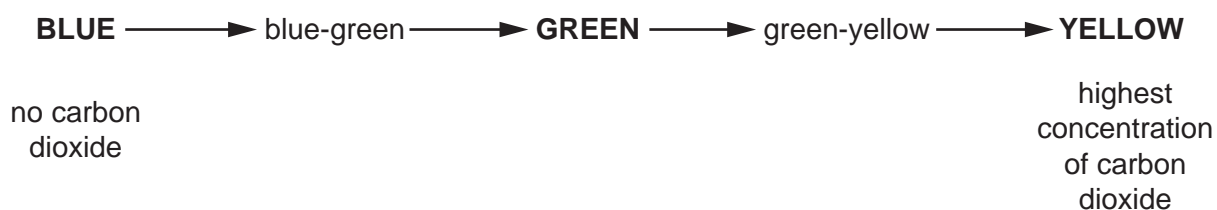

Fig. 1.1
Fig. 1.1 shows the effect of increasing concentration of carbon dioxide on the colour of **B**. Yellow is the end-point.
step 20 Mix the sample of **W** and **B** on the white tile and immediately record the colour in (a)(ii), using the colours stated in Fig. 1.1.